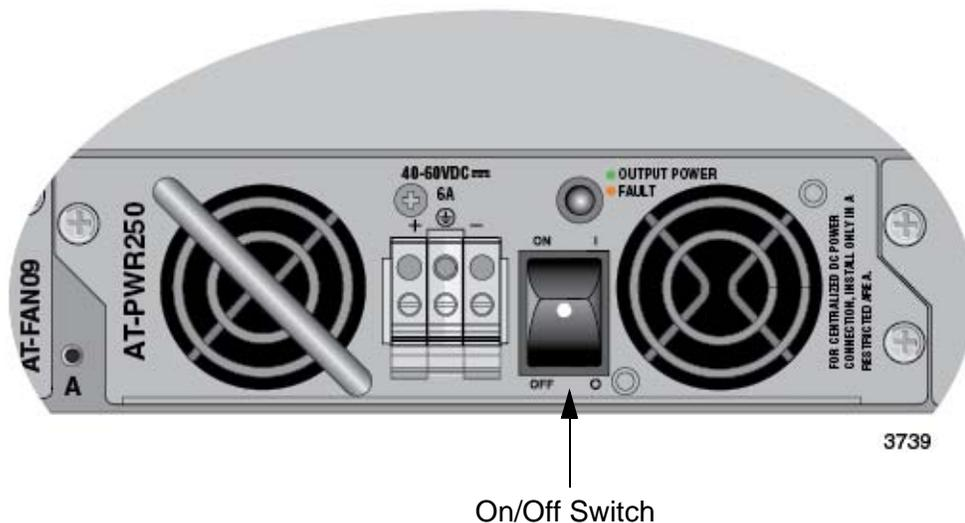

Figure 53. On/Off Switch on AT-PWR250-80 Power Supply
- Verify that the On/Off switch on the power supply is in the Off position. Refer to Figure 53.